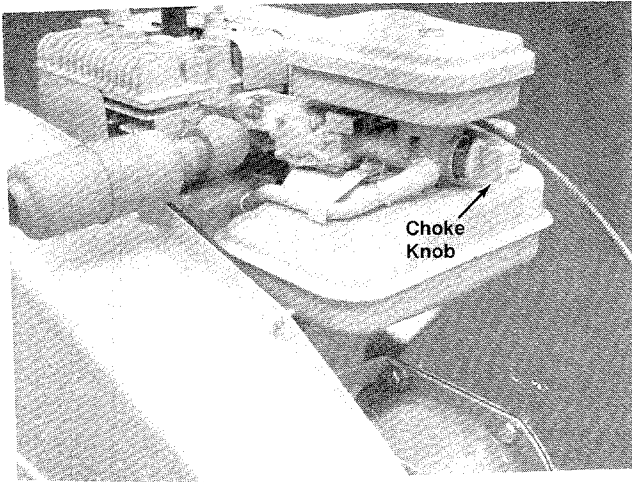

FIGURE 17.
2. Place the shift lever in the neutral (N) position. See figure 17.
3. Choke Engine. Pull choke knob out to choke engine. See figure 17. Once the engine starts, push in the choke knob.